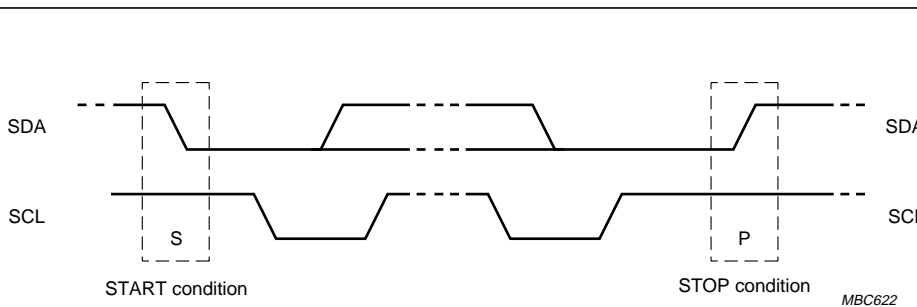

Fig.18 START and STOP conditions on the I²C-bus.
Both data and clock line will remain HIGH when the bus is not busy. A HIGH-to-LOW transition of the data line, while the clock is HIGH, is defined as a start condition (S). A LOW-to-HIGH transition of the data line while the clock is HIGH is defined as a stop condition (P); (see Fig.18).